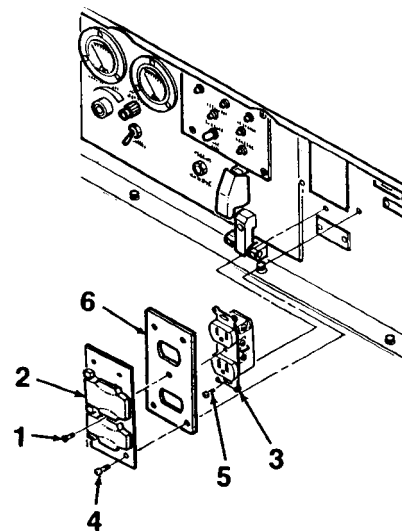

Figure 4-21. Convenience Receptacle
2. Remove screw (1, Figure 4-21) to disconnect receptacle cover (2) from convenience receptacle (3). Remove cover and rubber gasket (6) by removing four screw and captive washer assemblies (4).
1. Connect electrical wiring to convenience receptacle (3, Figure 4-21).
2. Mate convenience receptacle (3) to control box and secure using two screws (5)
3. Mate cover (2) and rubber gasket (6) to control box and secure using four screw and captive washer assemblies (4). Install screw (1).